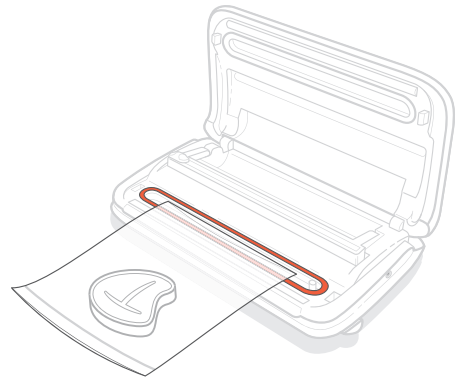

Figure 2.2
- **Make sure the bag opening is fully inside the chamber, or air may be left inside the bag.** [Figure 2.2]